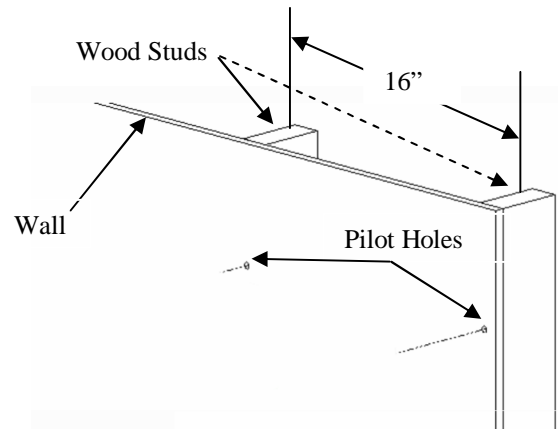

Figure 3. Wood Studs 16" Apart on Center
- Refer to Figure 3 for dual wood studs that are 16" apart on center.